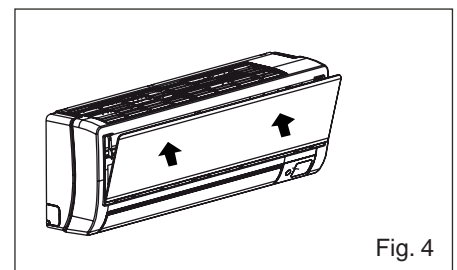

Fig. 4
- 2) Hold the lower edge of frontal panel and lift up the panel, as it is shown in Fig. 4.